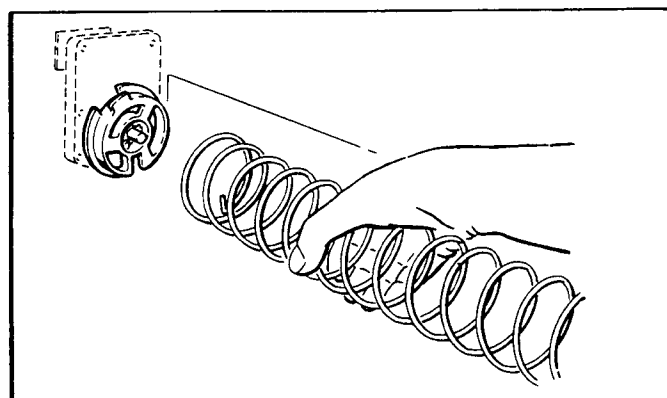
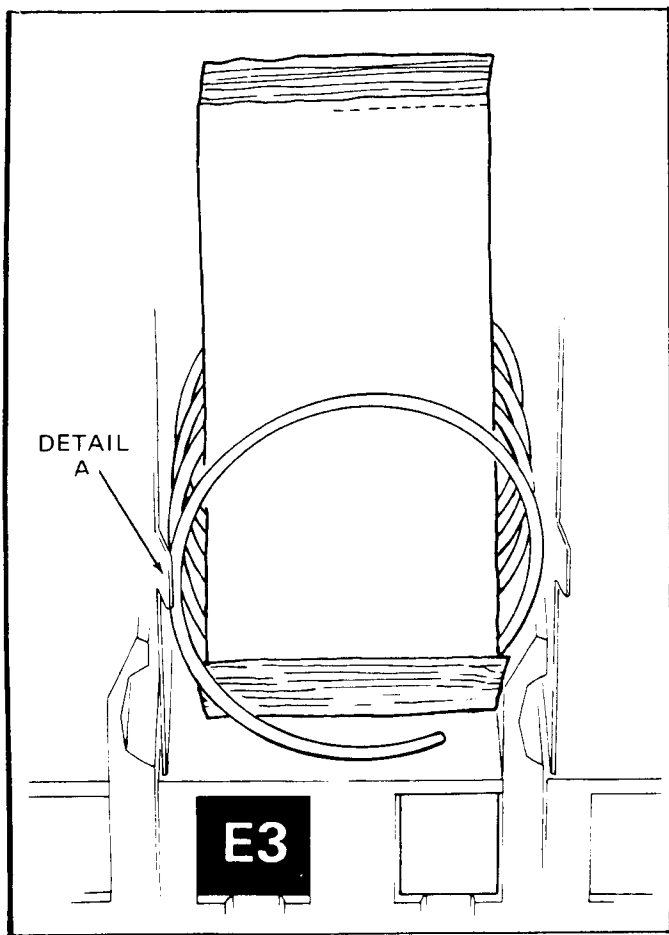

Figure 3. REMOVING AND INSTALLING SPIRAL.
Figure 5. **PLACEMENT OF PRODUCT ON MAIN PRODUCT CANDY SHELVES AND FRONT END POSITION OF SPIRAL.**
5. **REMOVAL OF SPIRAL:** Grasp the front of the spiral and turn it clockwise. Lift the spiral up and off of the spiral lock. When replacing a spiral attach it around the tab on the spiral lock and turn the spiral counterclockwise to lock it in place. Be sure the front end of the spiral is positioned properly (with the front end of the spiral pointing downward on the left side) (see Figure 3). The spiral lock is attached between the spiral retainer tabs. Give a light forward pull on front of the spiral to check if it is locked in place.
7. **LOADING MAIN PRODUCT CANDY SHELVES:** The 10-selection (candy type) shelves are loaded similar to the 5-selection shelves except that the bottom of the product sits on the shelf in front of the spiral wire (see Figure 5) that rests on the shelf. These products must also fit properly in the spiral space; do not force product into spiral.
These spirals are removed and installed the same as the large spiral (see Figure 3), except that the front end position is different (approximately 5 o'clock) (see Figure 5) and the front left side of the spiral must be behind the small tab located on the left side of the product space side wall (see Figure 5, Detail A).